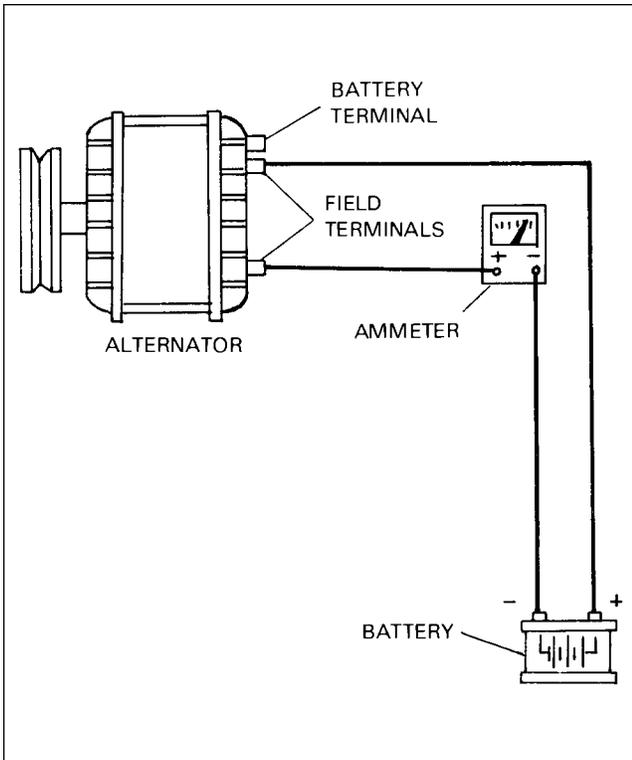

Figure 24-3. Checking Field Coil Current Draw
**ROTOR FIELD COIL CURRENT DRAW.** (Refer to Figure 24-3.)